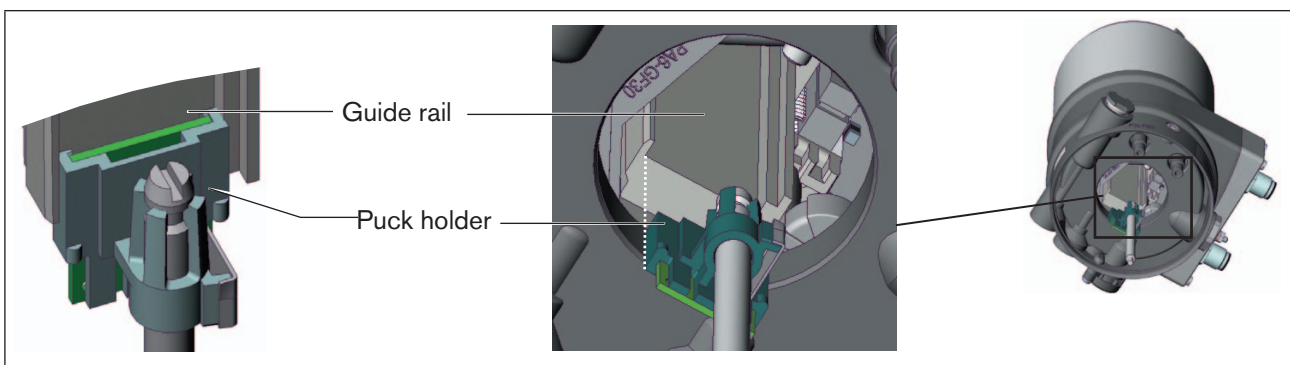

Figure 17: Aligning the puck holder
1. the puck holder can be inserted into the guide rail of the positioner (see “Figure 17”) and